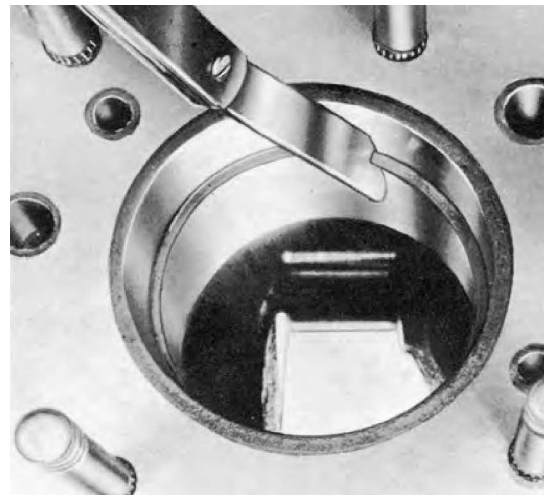

Fig. C3. Measuring the piston ring gap
2. Measure the ring gap with a feeler gauge. The gap should be 0.40–0.55 mm (0.016–0.022"). See Fig C3. If necessary, the gap can be increased with the help of a special file.